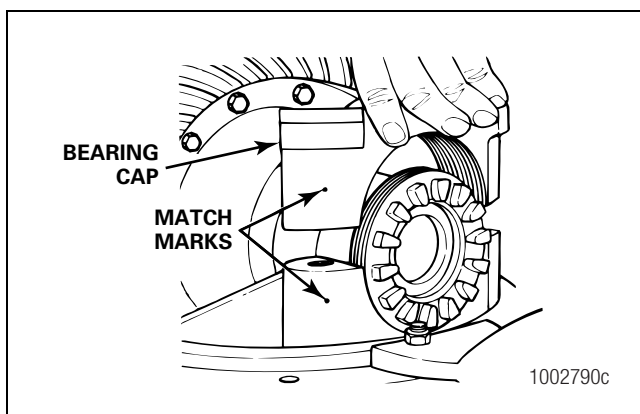

Figure 5.49
7. Install the bearing caps over the bearings and adjusting rings. Align the match marks you made when you removed the caps. Figure 5.49.